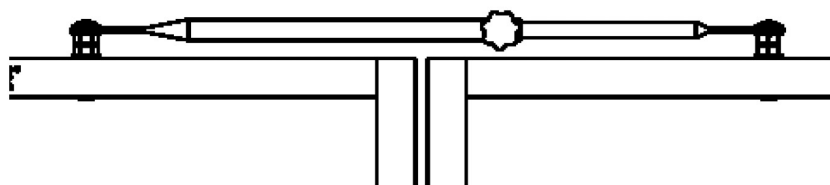

Fig. 9: Installing the telescopic rod
As the next step, attach the telescopic rod (24) using coach screws (27) and sleeve nuts (8). The hexagon nuts (28) and washers (26) serve to adjust the distance (see Fig. 9). Please ensure the screws are tightened only so far that the telescopic rod can still move, but does not rattle.